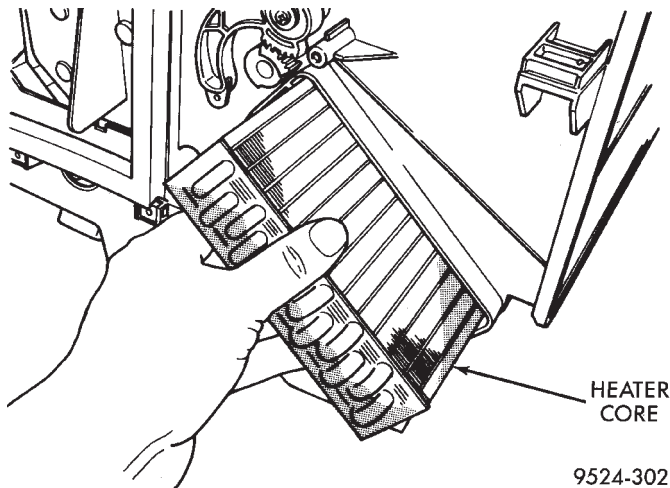

Fig. 95 Slide Out Core
(25) Slide heater core out of heater housing (Fig. 95).